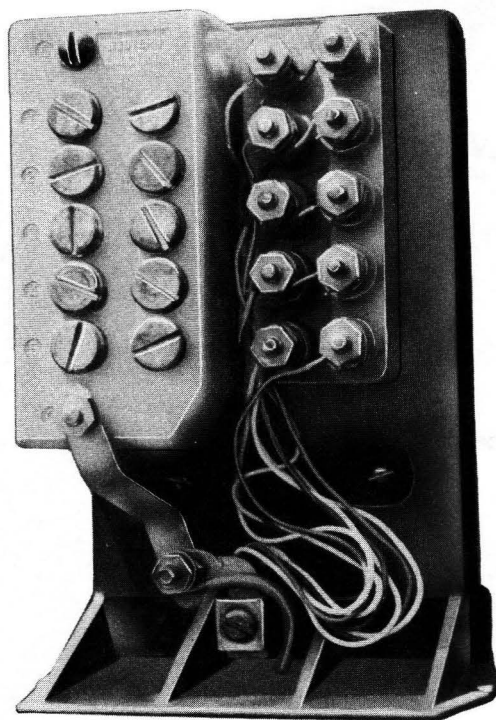

Fig. 23—142A1A Protector in C Customer Service Closure
3.28 ♦The 142A1A protector (Fig. 23) is intended for use where the station is served by 5-pair service or drop wire. It consists of an insulating base with a threaded-stud grounding connector and five pairs of 2A1A protector units, though 11-type (gas filled) protector units may be used, wired to a 5-pair terminal block. It may be mounted in either a C or D customer service closure. ♦